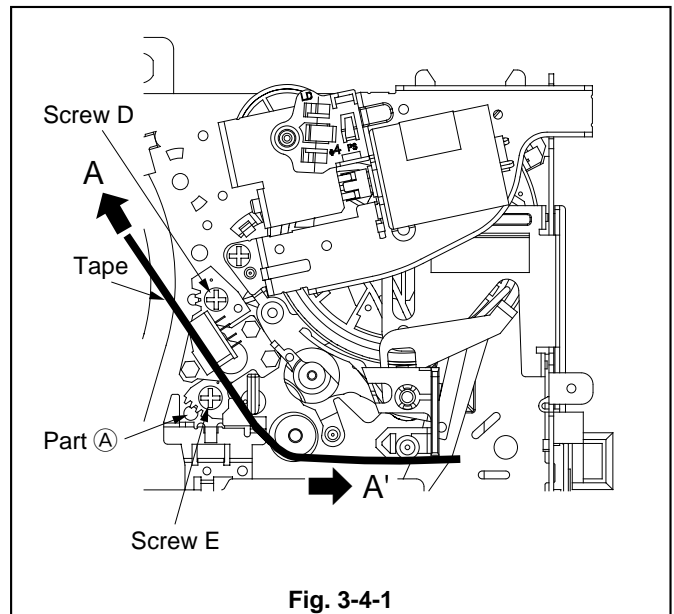

Fig. 3-4-1
3. Loosen the Screws D and E shown in the Fig. 3-4-1. Insert a screw driver (+) into the Hole in the MAIN PLATE ASSY (Part A) and move the A/C PLATE to the right and left to set the amplitude level of the FM Waveform to maximum.
12. Push the A/C HEAD to the right and left (in the direction of A-A' in the Fig. 3-4-1) and release it. Confirm that the amplitude of the FM Waveform does not change, compared to before the A/C HEAD was shifted.